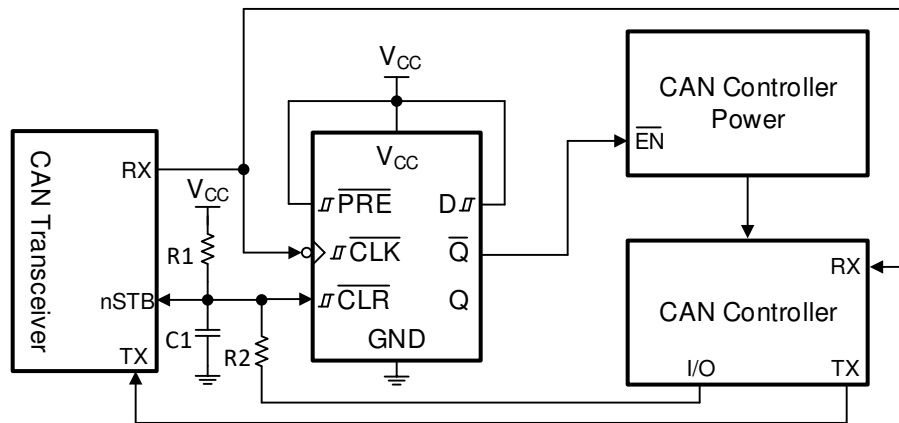

Figure 12. Power Enable Using CAN Wake-up Request
With the SN74HCS72, a power on reset circuit only requires a resistor (R) and capacitor (C) to create a delay. The R and C values create a delay that is approximately $2.2 \times RC$. In this application, it is desired to have the output (Q) in the HIGH state at startup, so R1 and C1 are connected directly to the CLR pin, as shown in Figure 12. A second resistor is needed to limit the current into the CAN controller when it sets the circuit back into standby mode. It is required for the R1 resistor to be at least ten times larger than R2 to avoid a divider circuit ($R2 \leq 10R1$).